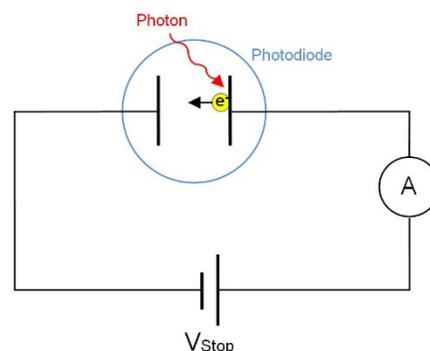

Figure 2: Photodiode Circuit
In this experiment, the kinetic energy of the emitted electron is measured by applying a potential difference (V) across the photodiode to just barely stop the electron from reaching the collector plate in the photodiode tube (Figure 2). The voltage is adjusted until the ammeter reads zero. The